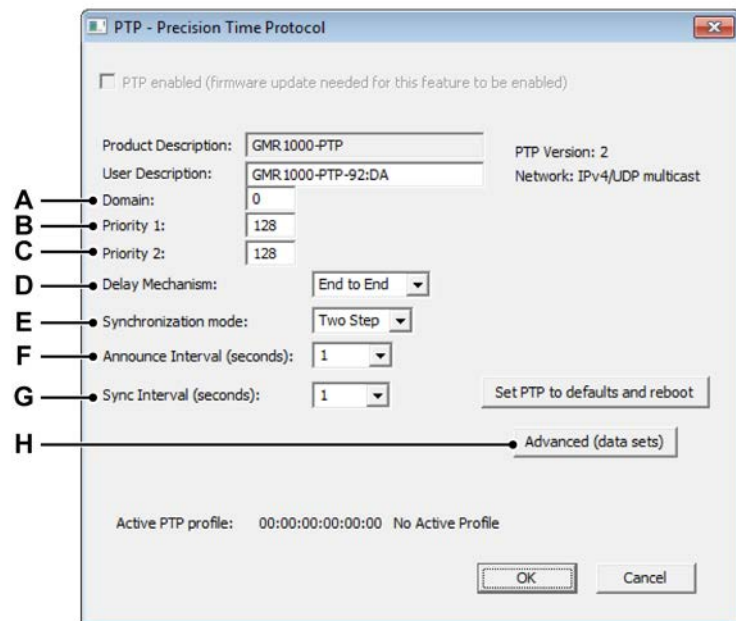
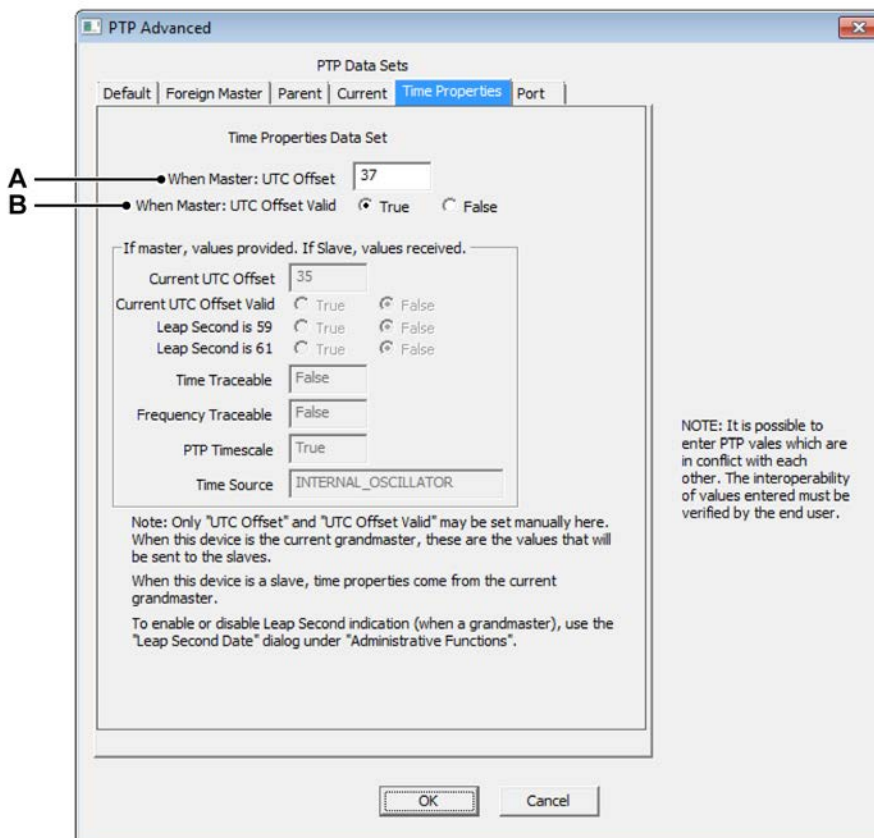

Figure C.68: PTP - Precision Time Protocol
Figure C.69: PTP Advanced - PTP Data Sets/Time Properties settings
- 6 Click the **Advanced (data sets) button (H)** in PTP - Precision Time Protocol window (see Figure C.68) to open the **PTP Advanced** settings (see Figure C.69).